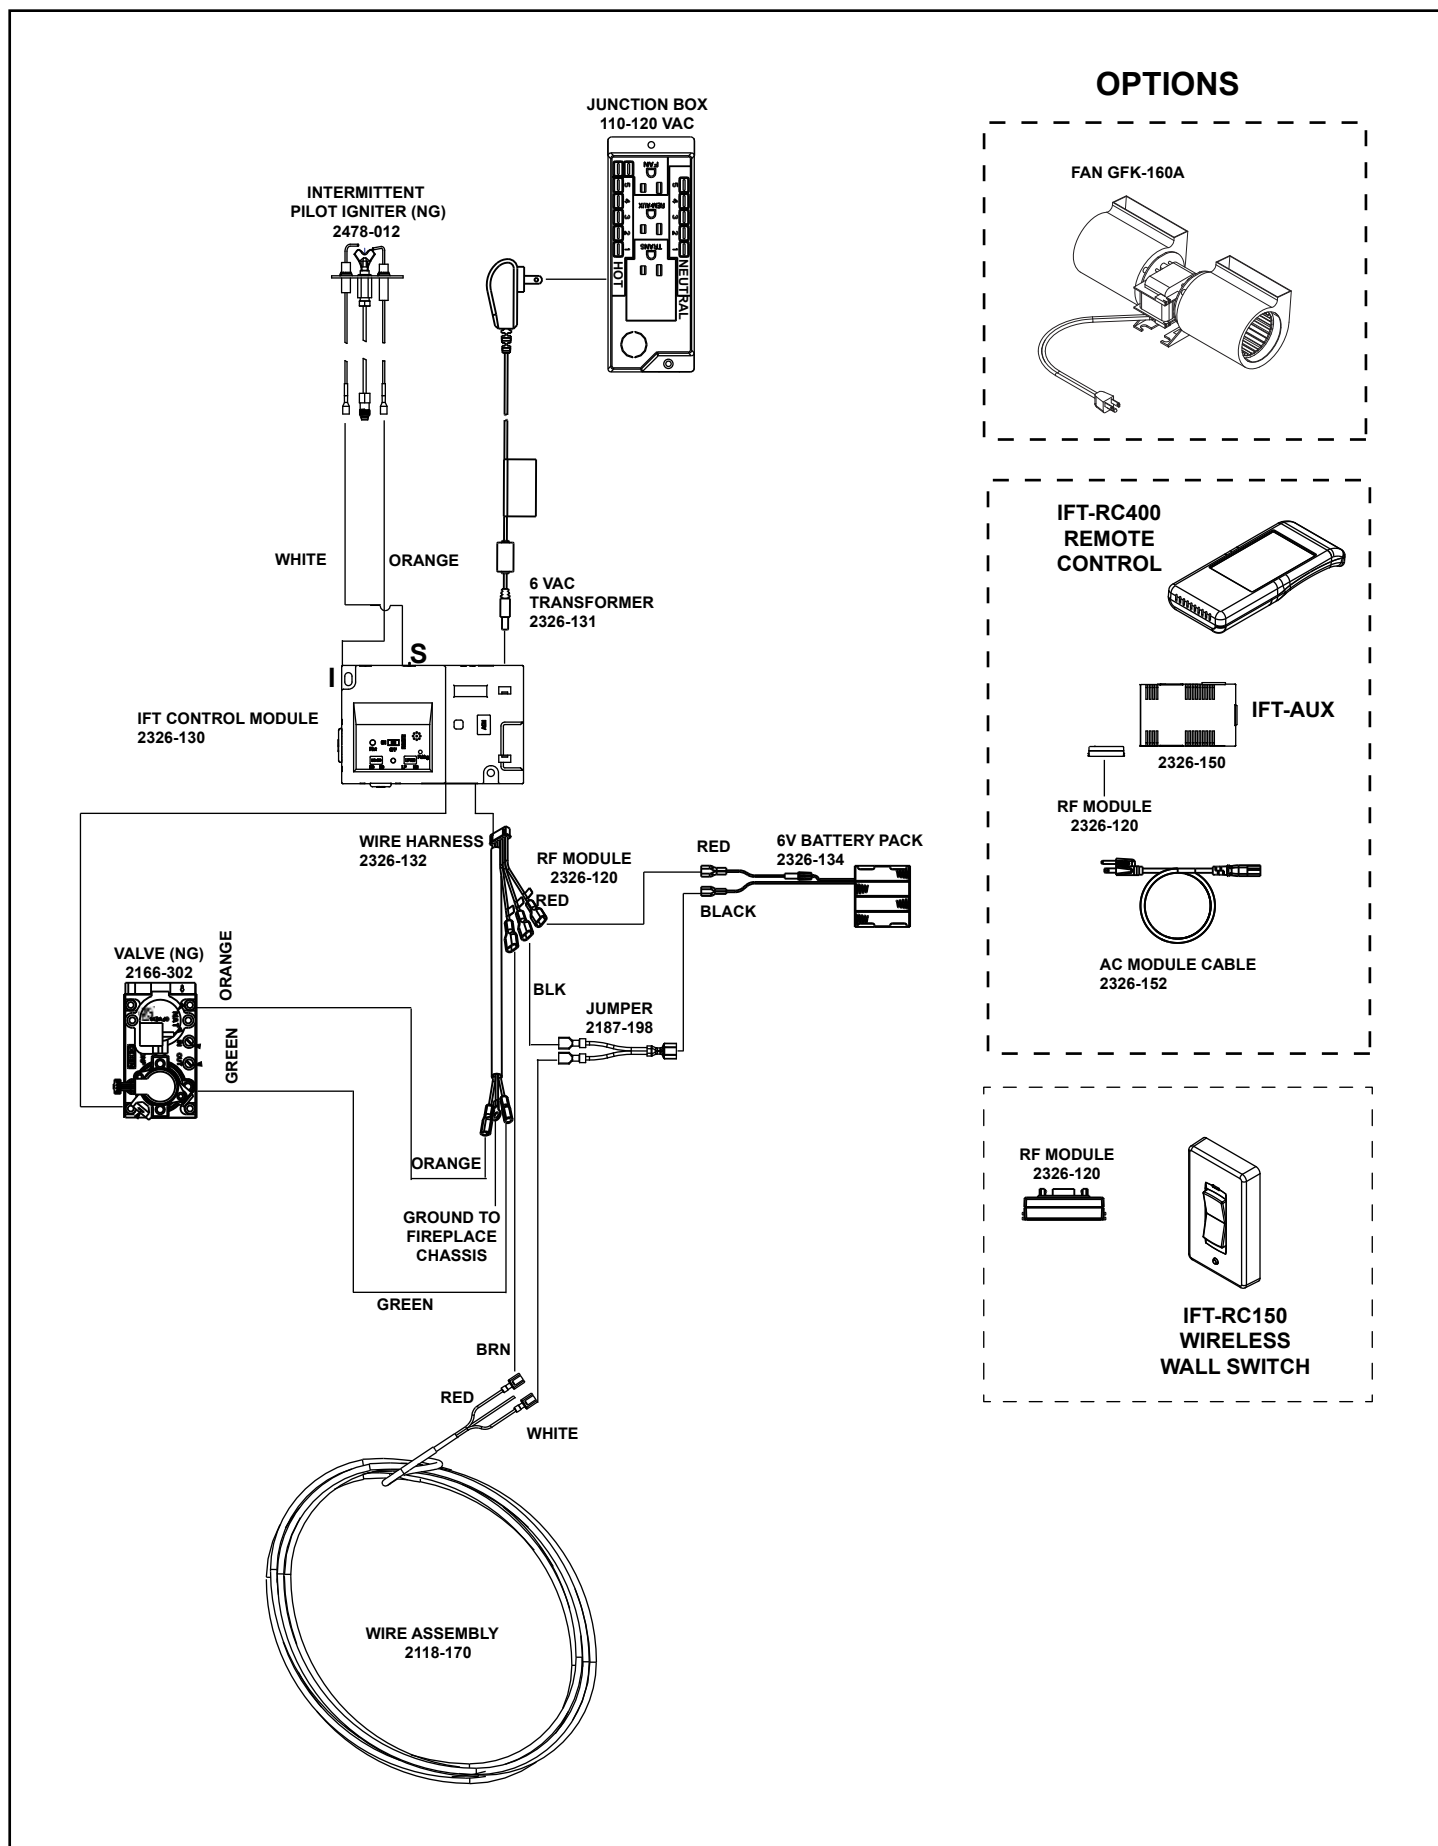

Figure 8.2 IntelliFire™ Touch Wiring With Wall Switch
- Refer to Figure 8.2, IntelliFire™ Touch (IPI) Wiring Diagram.